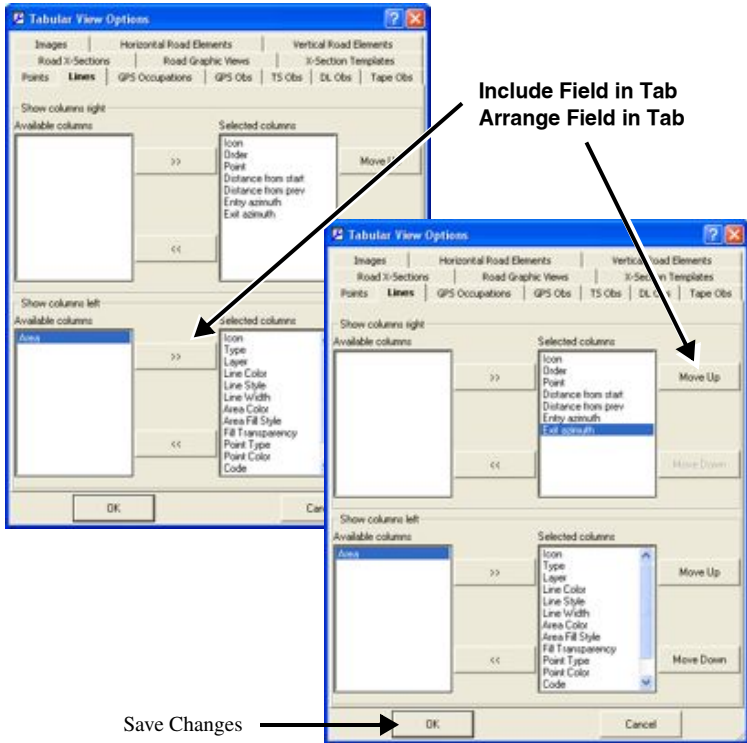

Figure 3-18. Lines Tab Options – Editing Data Columns
2. For most of the tabs, select the desired field and use the following buttons to set up the data columns. Figure 3-18 on page 3-21 uses the Lines Tab options as an example.